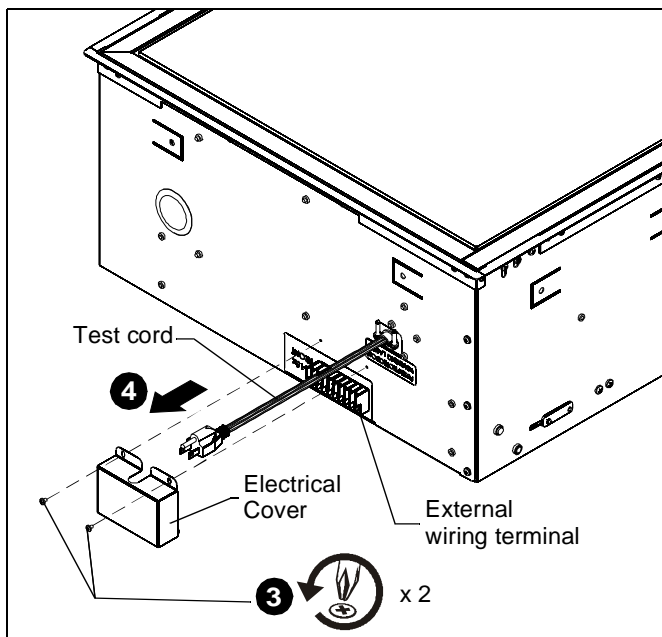

Figure 2
3. Remove and save two screws holding side electrical cover in place. (See Figure 2)
4. Remove electrical cover. (See Figure 2)
6. Plug in the SL151 test cord. (See Figure 2)
NOTE: (See Figure 2) for location of external wiring terminal.